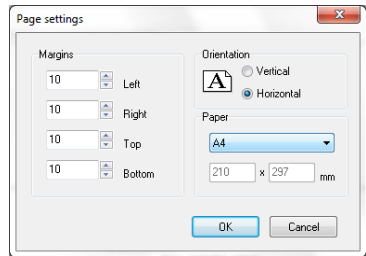

Fig. 317 – Page setting window
**Page settings**  - page parameters of the generated documentation; input the information in the box below (Fig. 317);